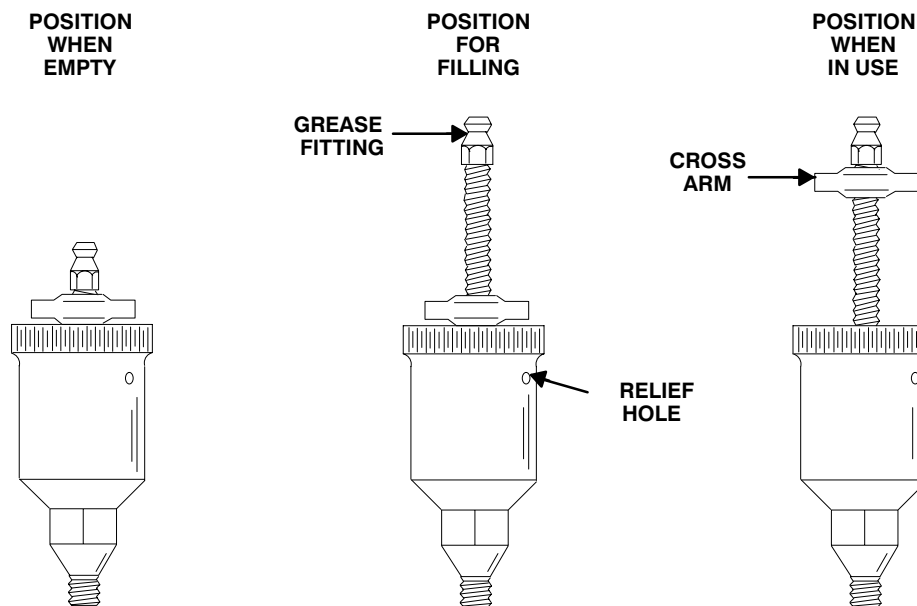

Figure 4. Automatic Lubricating Grease Cup
Fill the grease cup (4) through the grease fitting with No. 2 lithium base grease until grease escapes from the relief hole. Turn the grease cup arm counterclockwise until it is at the top of the stem; this will release the spring to apply grease to the seal (see Figure 4).